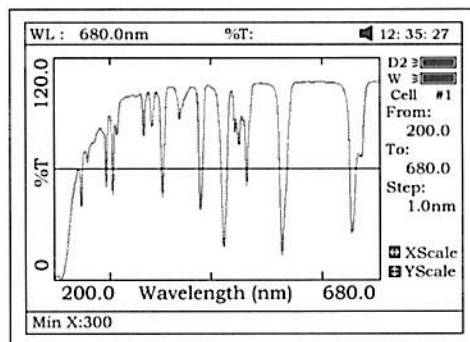
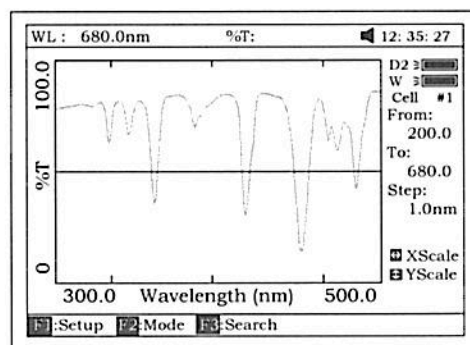

Fig47
Fig 48
5. If you want to change the scale, press **<** or **>** to change "x" scale (Fig 47), input upper limit and lower limit by pressing the numeric keypad . To change "y" scale press **^** or **v** . After these inputs the instrument will redraw the curve (Fig 48).
Press **【SAVE】** to save the curve. Note: Load/Save requires the first scan display page (Fig. 48). Press **ESC** if in Search to return to the required page